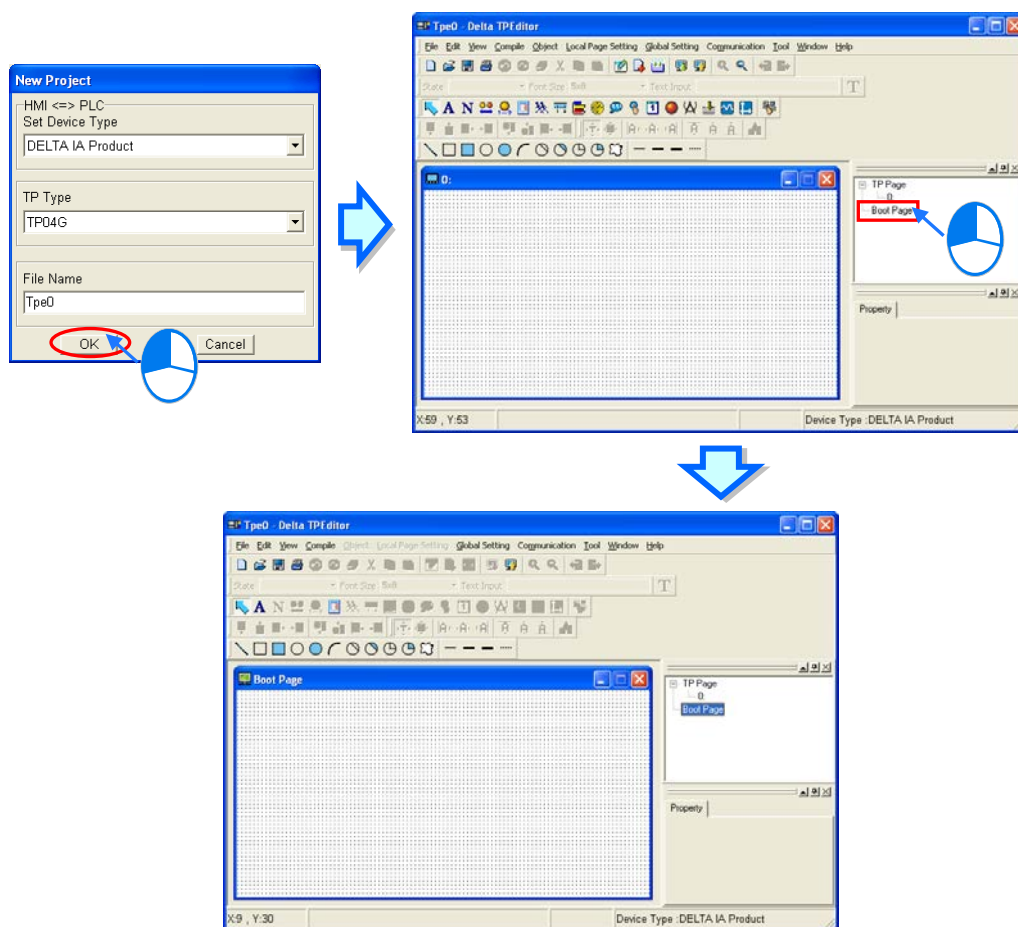

Figure 6-8 **Boot Page** window
- Step 1: Start TPEditor. Click **New** on the **File** menu, or  on the standard toolbar. After users select a model, and click **OK** in the **New Project** window, a blank project will be created. After the users click **Boot Page** on the **View** menu, or **Boot Page** in the page management area, the **Boot Page** window will appear, as shown in Figure 6-8.